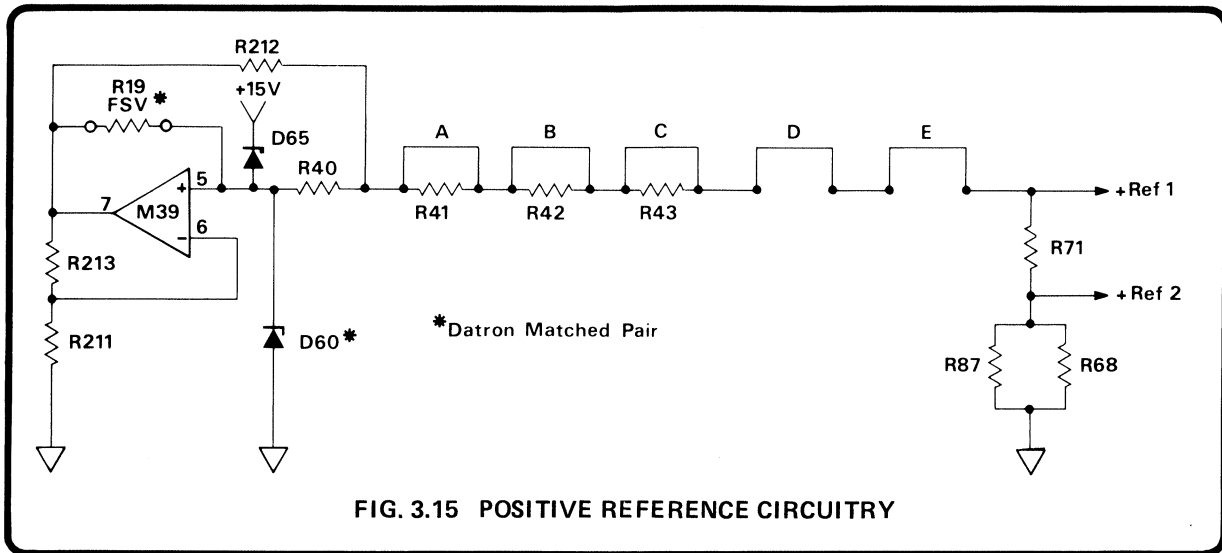

FIG. 3.15 POSITIVE REFERENCE CIRCUITRY
**REF 1 :** The two halves of M39 in conjunction with zener diodes D60 and D59 form the positive and negative reference voltages respectively, D65 and D64 being 'start-up' diodes (see Fig. 3.15). The outputs of M39 (+11 and -11 volts) supply the defined current for the reference zeners via R212 and R38 respectively. R19 and R18 are selected by Datron so that each zener has very low voltage temperature coefficient.